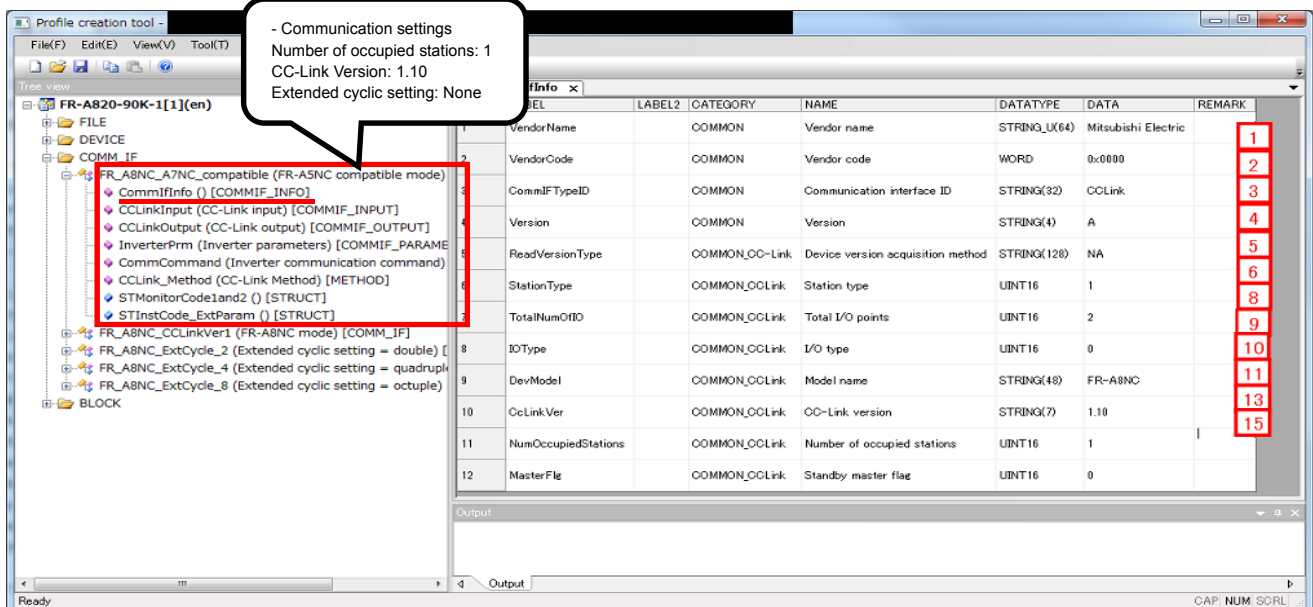

Figure 4.2-1 Definition When CC-Link Version Is Less Than 2.00 along with FR-A5NC Compatible Mode
- When the specifications of the device itself do not change from the network settings, create one common BLOCK and refer to that BLOCK from the multiple COMM_IF sections. Figures 4.2-1 to 4.2-4 show the description examples.